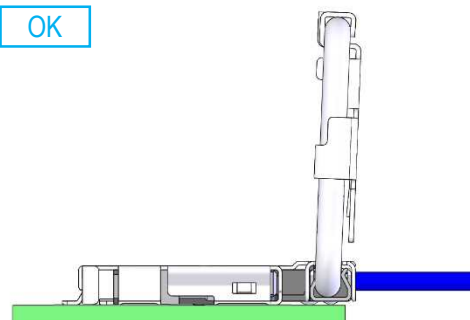

Fig.6
- ④ As shown in Fig.6, push both ends of Plug connector horizontally and confirm there is no gap.